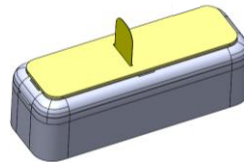

Figure 1
1. Pull the exposed plastic tab from the sensor. (Figure 1)